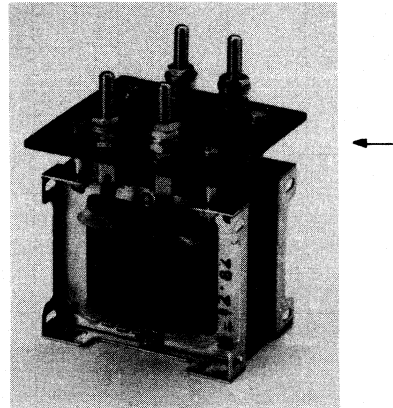

Fig. 28 Example of a choke.
- C) For **electrical parallel connection** order also chokes (Fig. 28); see column 3.